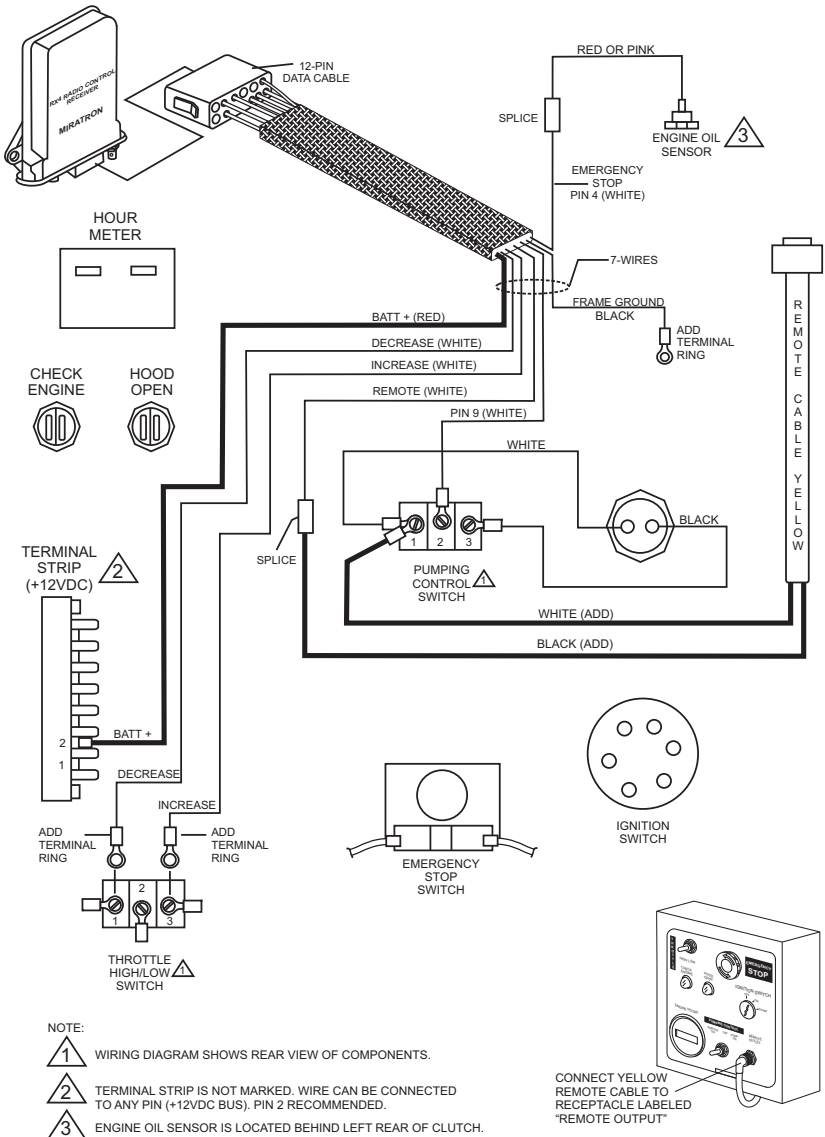

Figure 2. Wiring Diagram
1. Wire data cable into control box as shown in Figure 2.
1. Connect the remote control cable to the control box as shown in Figure 2 .